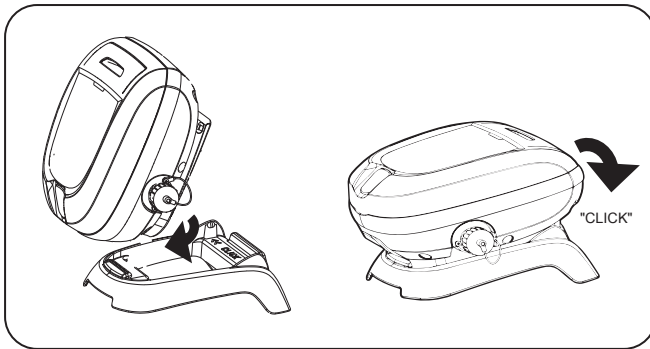

Figure 1. Connect Control Unit Base
- U.S.: Per NEC® requirements, keep the control unit at least five (5) ft. (1.5 m) from the edge of the pool. CANADA: Per CEC requirements, keep the control unit at least three (3) m (10 ft.) from the edge of the pool.
1. Seat the control unit firmly in the control unit base (Figure 1).